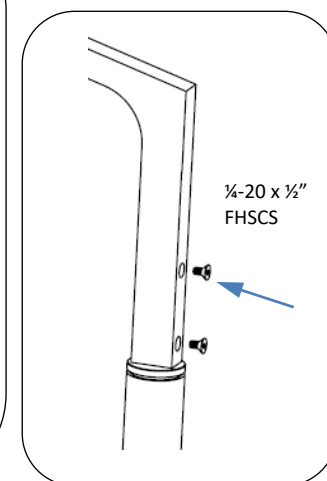

Fig. 8 – Install screws to secure arm
15. Carefully slide lighted arm over the bracket at the top of the round pole. Align two holes in back of arm. Secure with (2) ¼-20 x ½" flat head socket cap screws, see Fig. 8.